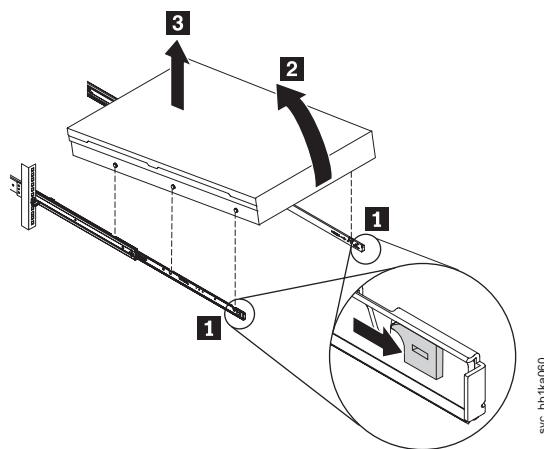

Figure 33. Removing the 2145-CG8 or 2145-CF8 from the rack
4. Pull forward the two white catches ( **1** in Figure 33) on the side of the rails, and lift up the front of the node very slightly.